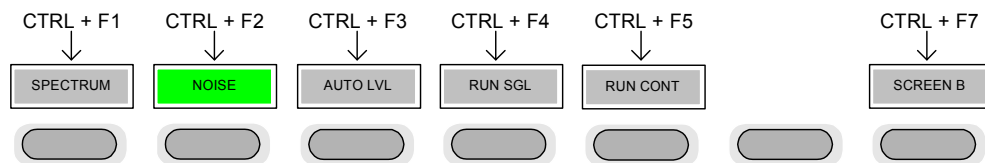

Fig. 5 Quick Access to Hotkeys
CTRL keys Used to activate hotkeys. Each of the seven hotkeys is allocated a different function (F) key. To access these hotkeys, press CTRL and the corresponding F key together (see Fig. 5):